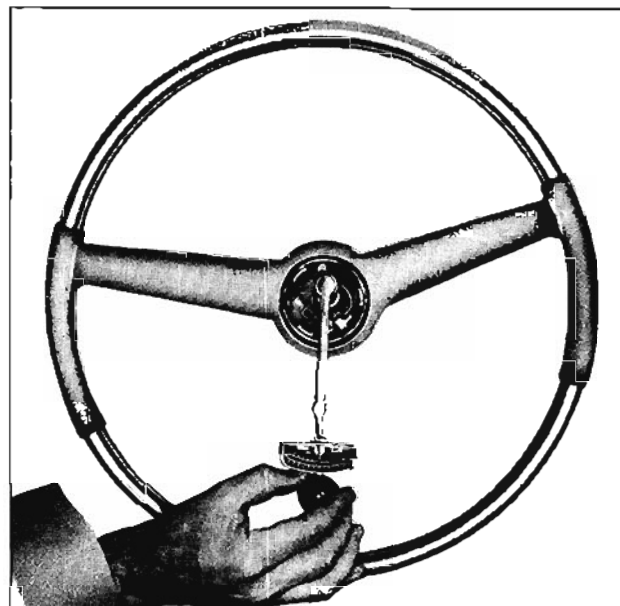

Fig. 8-8 Checking Worm Bearing Pre-load
3. Using an inch pound torque wrench measure the torque which is required to keep the wheel in motion at about 30° off straight ahead position. (Fig. 8-8)